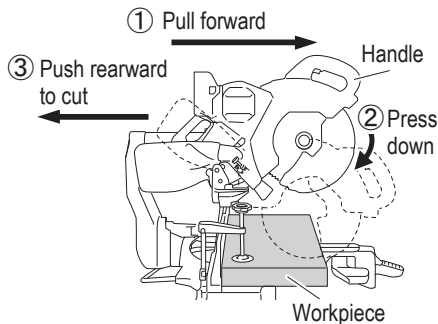

Fig. 36
Then press down on the handle and slide the saw blade backward to cut the workpiece as indicated in Fig. 36. This facilitates cutting of workpieces of up to 4-3/16" (107 mm) in height and 12-1/4" (312 mm) in width.
- For slide cutting, follow the procedures indicated above in Fig. 36.